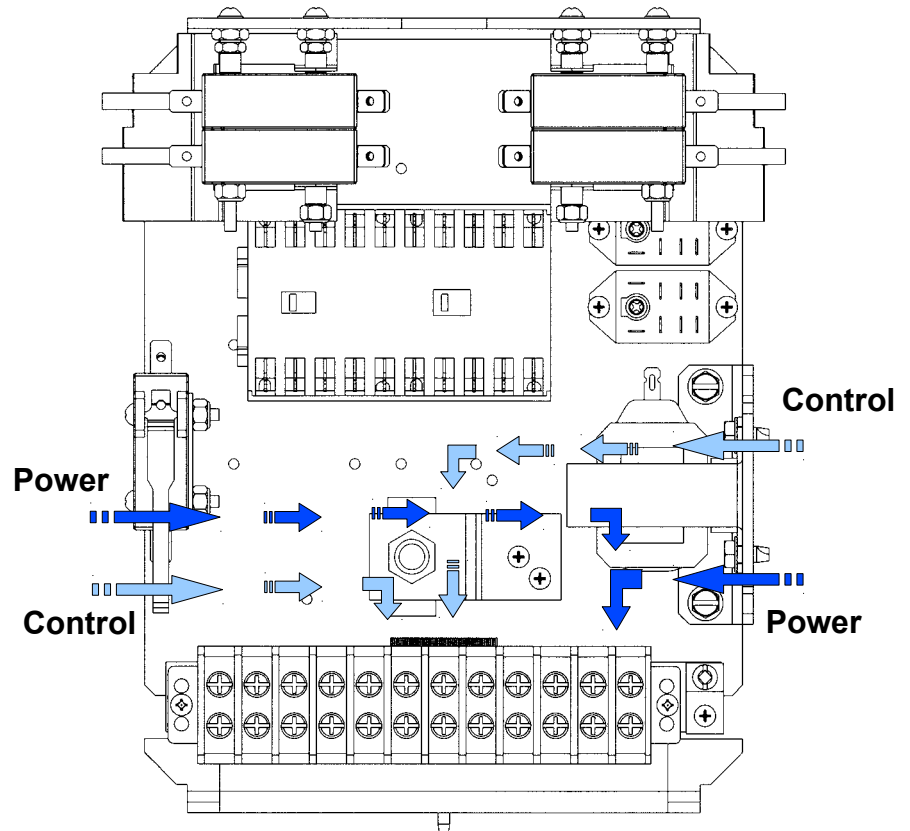

Figure 5 - Low Voltage (Controls) and High Voltage (Power) Connections
1. Route the power line wires either from the right or from the left of the control box, as shown in Figure 5.
2. Route all low voltage control wires, as shown in Figure 5. **KEEP LOW VOLTAGE WIRES SEPARATE FROM LINE VOLTAGE WIRES.**